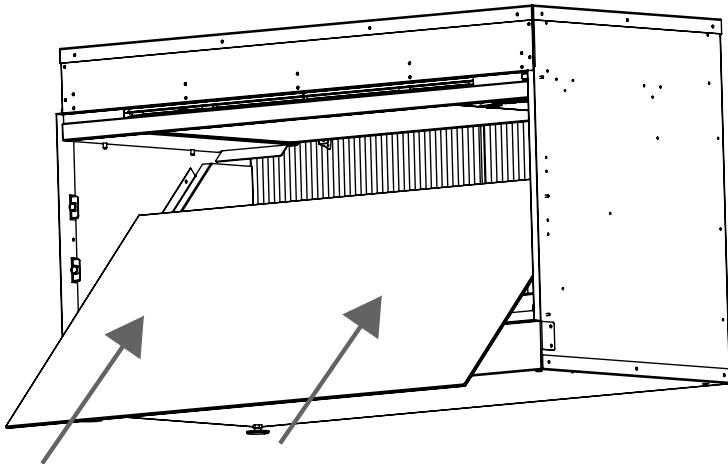

Figure 15: Angled Glass Install
2. Install the angled reflective glass by feeding it below the magnet brackets as shown in Figure 15.